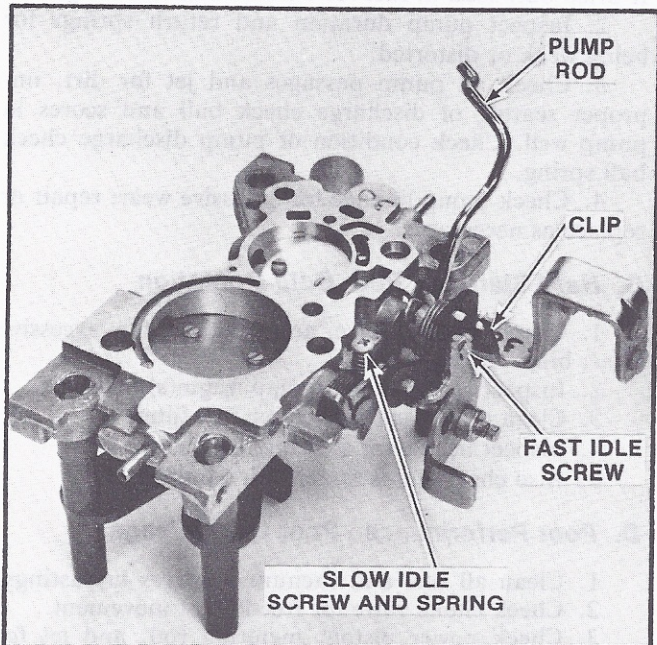

FIGURE 34 THROTTLE BODY
1. Install curb or base idle speed screw and spring, if removed, in throttle body (Figure 34).